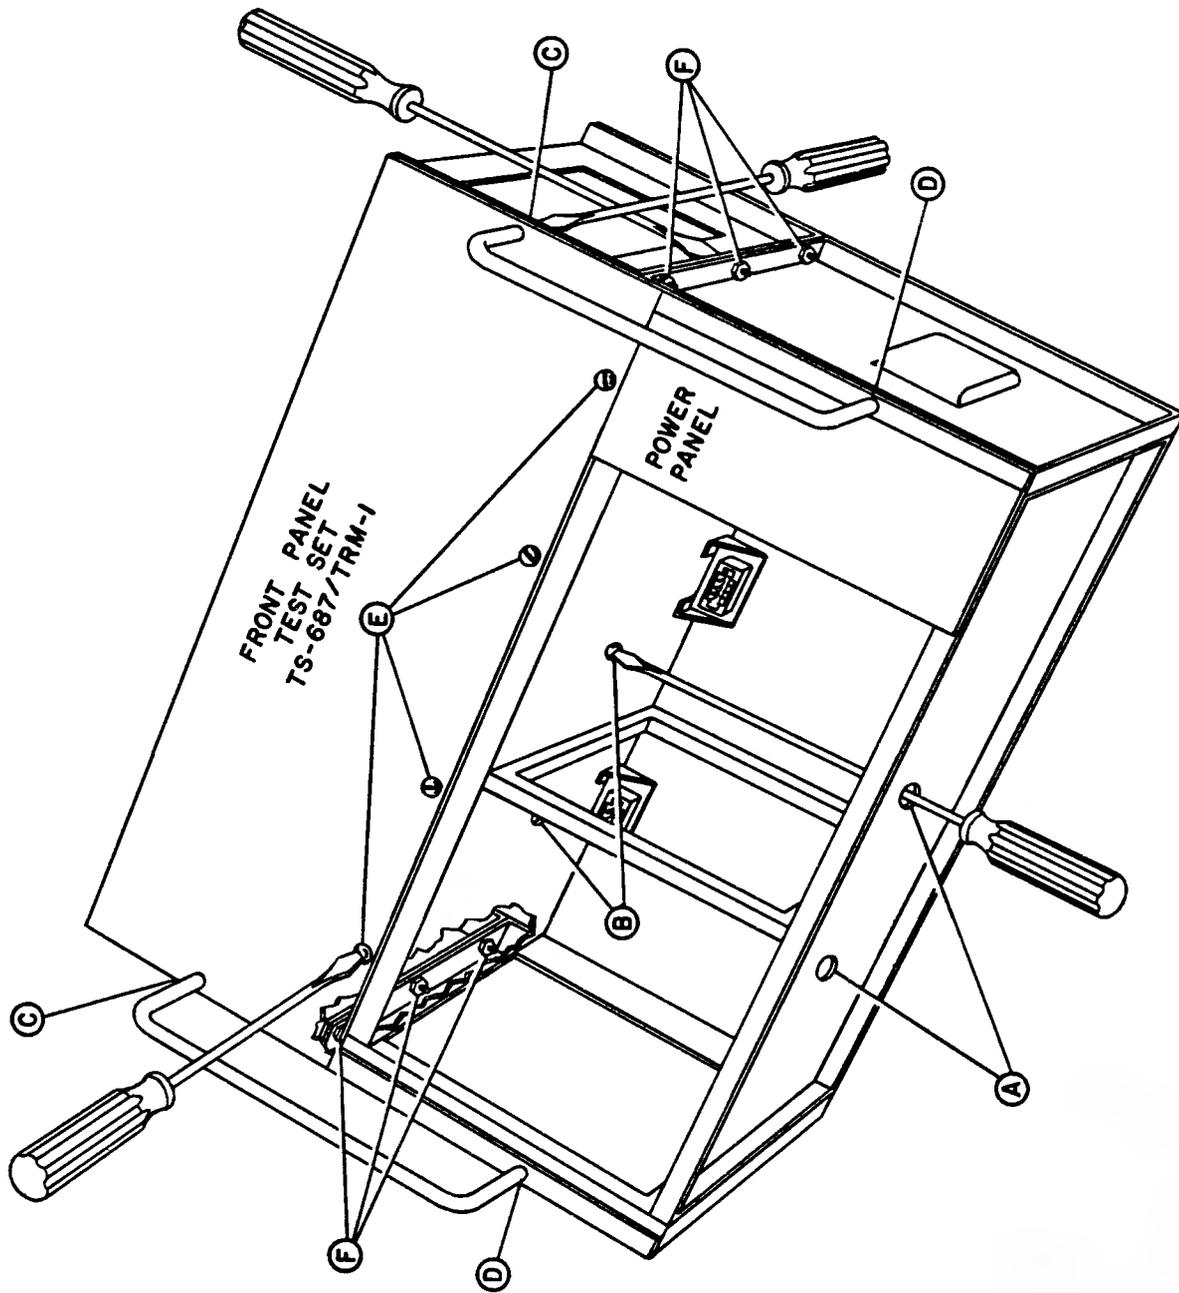

Figure 6-1. Disassembly for Test Set TS-687/TRM-1
(See figure 6-1)
- d. Located on the bottom panel of the signal generator walls, there are two clearance holes (marked A on figure 6-1), placed there to provide access to the corresponding two binding head screws (marked B on figure 6-1) holding the carrying handle support assembly. Pass a long-bladed screwdriver through each access hole and remove its corresponding screw.
The retaining nuts for the screws marked B, C, D, and E in figure 6-1 are captive type, and need not be held when removing or replacing the screws. The three screws, marked F, holding each side bracket are retained by hex nuts, with lockwashers, and must be held when removing or replacing the screws.
- f. Loosen slightly the bottom screws (marked D on figure 6-1) retaining the panel handles.
- g. Remove the top screws (marked C on figure 6-1) retaining the panel handles.
i. Remove the four binding head screws (labeled E in figure 6-1) from the bottom edge of the front panel of TS-687/TRM-1.
j. Take out six screws (labeled F in figure 6-1), three on each side of the subassembly. These screws, having removable nuts and lockwashers, fasten together the upper and lower side brackets of the frame.